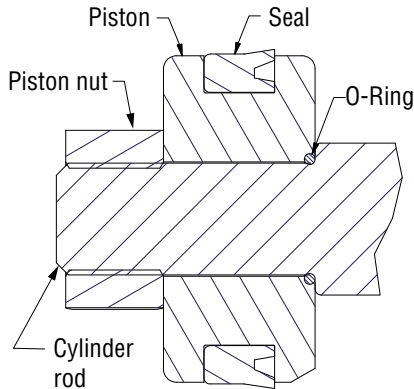

Figure 5-5, Piston Seal
2. Note the direction of the seal on the piston. Improper installation will result in poor performance. The cupped side or O-ring side of the seal should be facing the gland cap. (Figure 5-5)